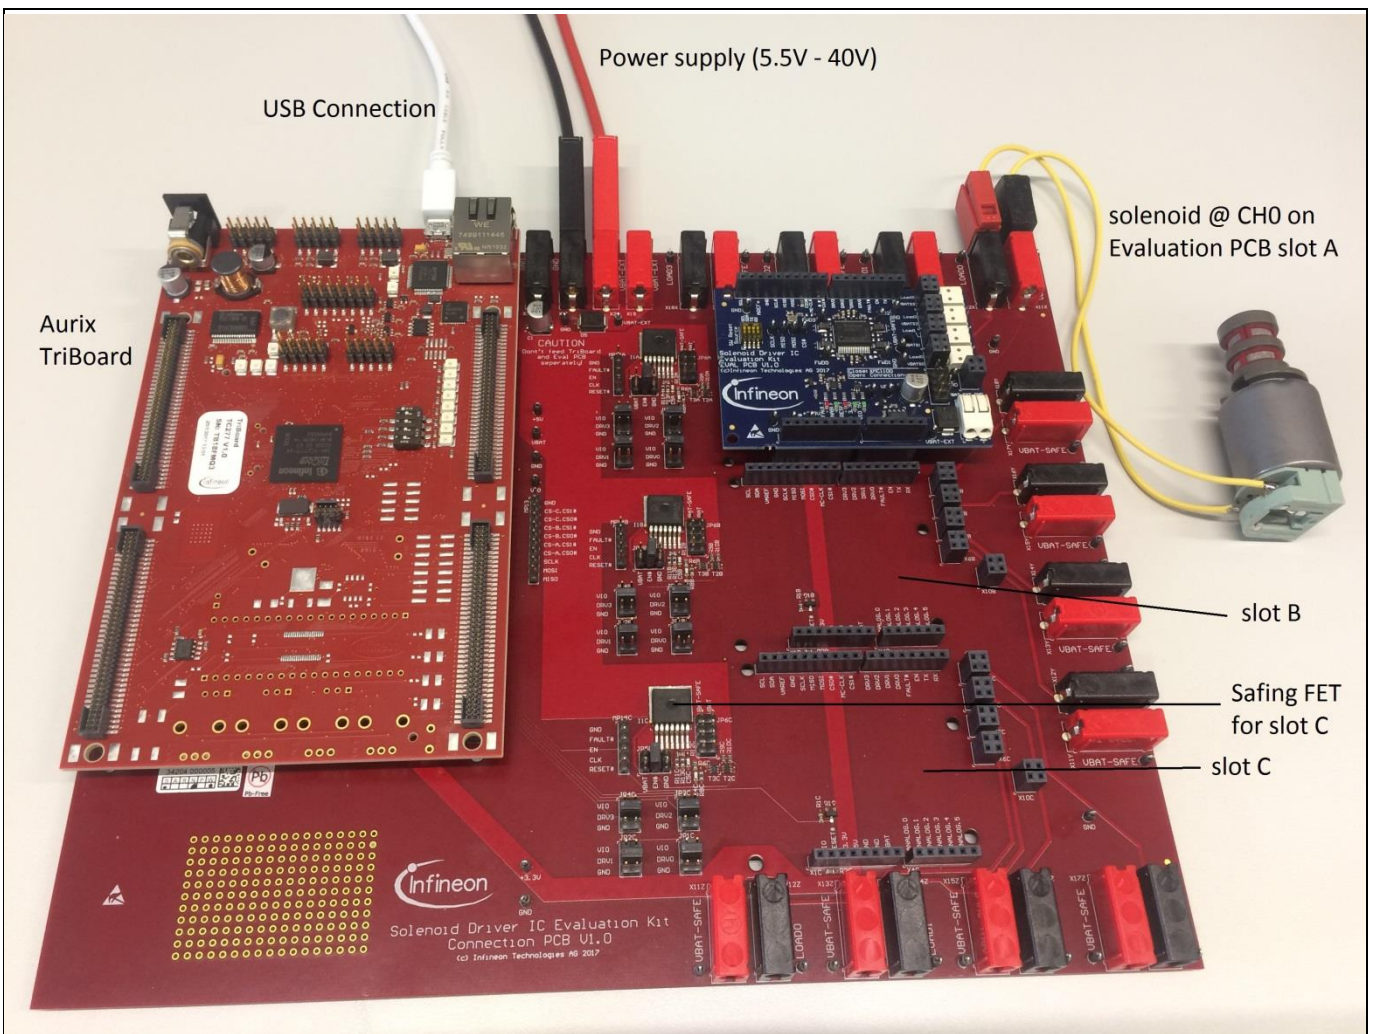

Figure 10 Setup example for Version L with a TC277 TriBoard
In Figure 10 a Version L setup with one Eval PCB and a TC277 microcotroller TriBoard is shown. The main voltage input is connected to the upper middle connectors and supplies the whole board setup inclusive loads. Take care on maximum current ratings. In case of using Eval PCBs in parallel supply the board via all four supply connectors (two red, two black). Each Eval PCB slot has its own SPI chip select signal to support an individual communication. The slots are named alphabetic. In Figure 10 a solenoid is connected to Channel 0 at slot A of the connection PCB. If the TC277 microcontroller is flashed with the Commando Interpreter software the TLE92464ED can be controlled via the USB connection by the PC. The USB connector can also be used to falsh and debug own embedded software. It is recommended to use the TriCore Entry Toolchain (<https://www.infineon.com/cms/de/product/microcontroller/32-bit-tricore-tm-microcontroller/tricore-tm-development-tools-software-and-kits/free-tricore-entry-tool-chain/channel.html?channel=db3a304344134c7a014420d628fa76ec>).
- Plug a 12V supply into the VBAT_EXT and GND Connectors on the Connection PCB and connect the TriBoard via the USB connector with your computer (see Figure 10)